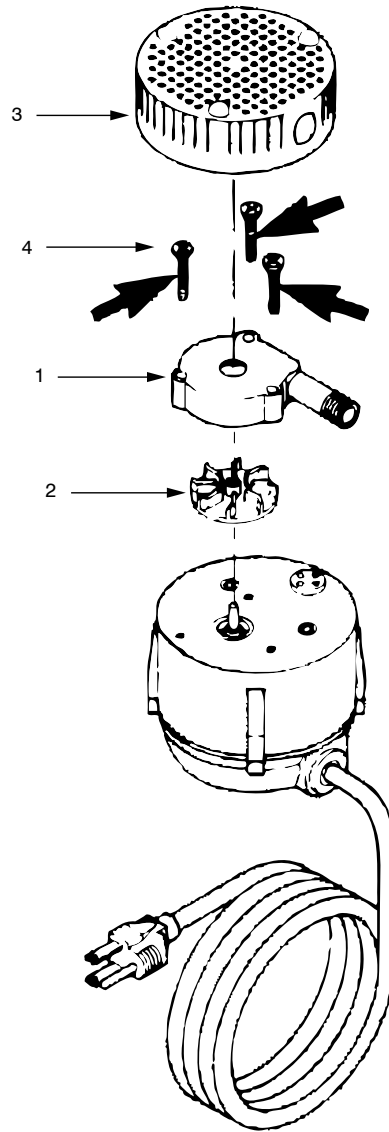

FIGURE 1 • FIGURE 1 • FIGURA 1
2. Periodic cleaning of the pump parts will prolong the life and efficiency of the pump. Refer to Figure 1 for the assembly and disassembly of the pumping head.